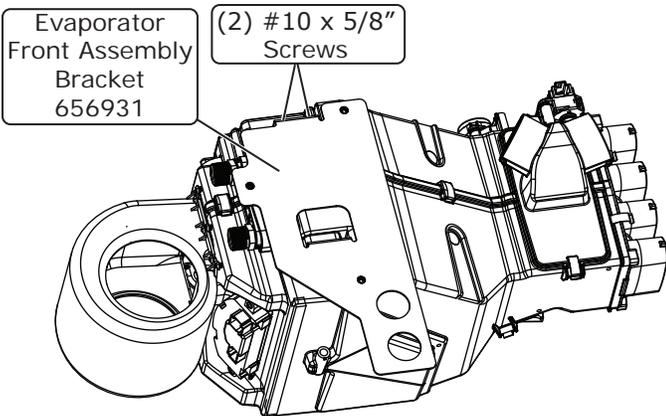

Figure 1
6. Install the evaporator front assembly bracket onto the front of the module using (4) #10 x 5/8" screws, ((2) screws on the top and (2) screws on the bottom of the bracket) as shown in Figures 1 and 2, below.